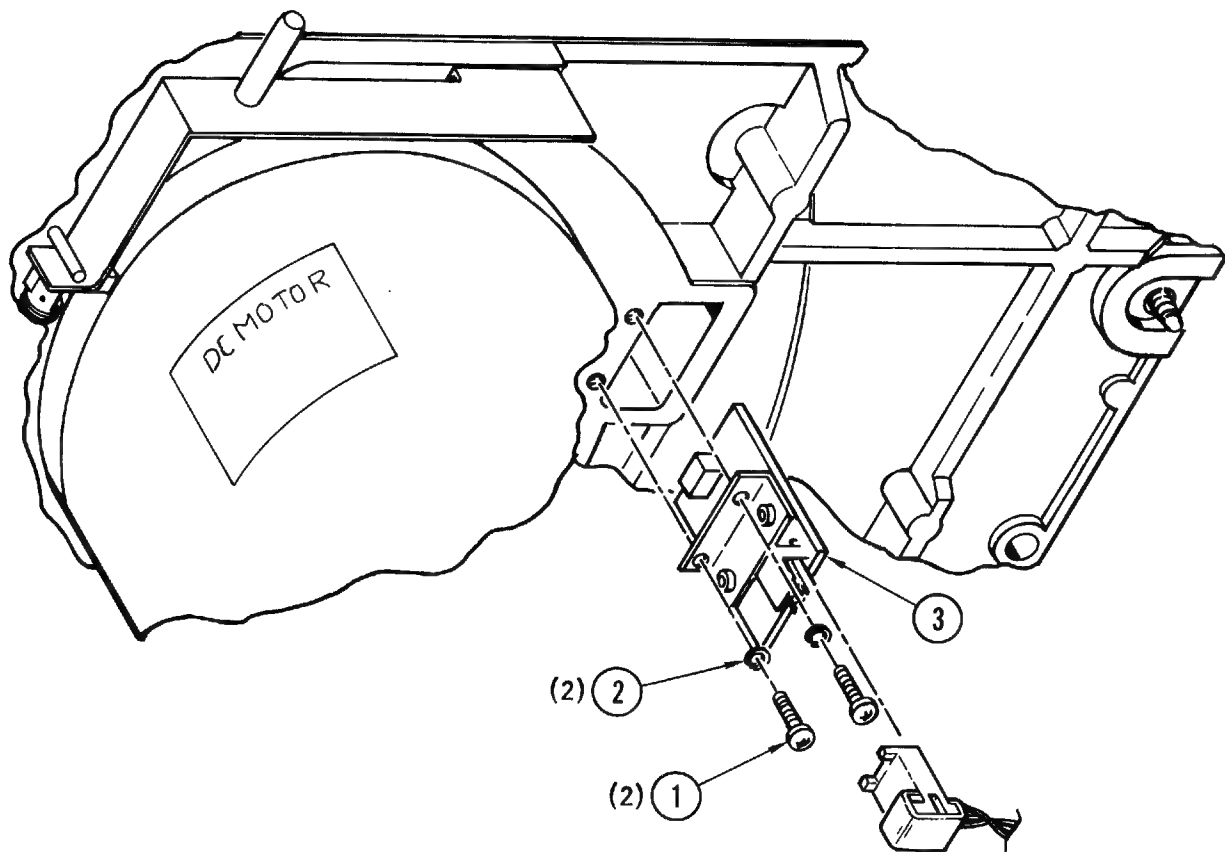

Figure 4-22. File-Protect Sensor
4-36. **Removal and Replacement (Figure 4-22).** Place the transport in service access position (paragraph 4-3) and proceed as follows:
- a. Remove connector (back of top plate) from file-protect sensor (3, Figure 4-22).
- b. Remove two screws (1) and lockwashers (2) and pull sensor (3) carefully through hole of top plate. Save attaching parts for reassembly.
- c. Position replacement sensor carefully through hole and secure with screws (1) and lockwashers (2).